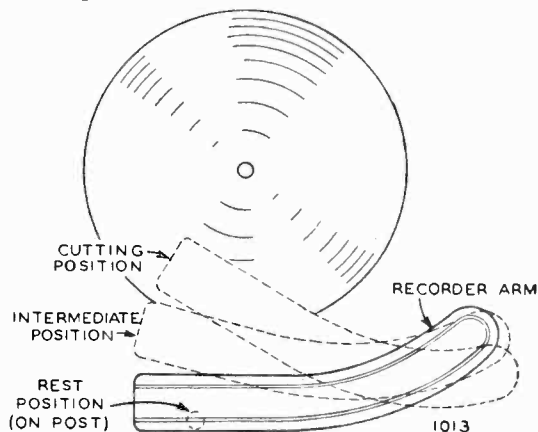

Fig. 3—Positions of Recorder Arm
A—Recorder arm in rest position—See Fig. 3.
—See Fig. 3. The volume of the radio program will be reduced. Bring the volume up with the Radio Volume Control until the red indicator light just flashes on loud passages. Then back the volume down a slight amount so that the red indicator light does not flicker.
- A—Recorder arm in rest position—See Fig. 3.
K—Lift up the cutting end of the recorder arm, see that the cutting needle is properly in place (See article "Recording Needles," page 4), move this arm over to the intermediate position and set it down gently—See Fig. 3.